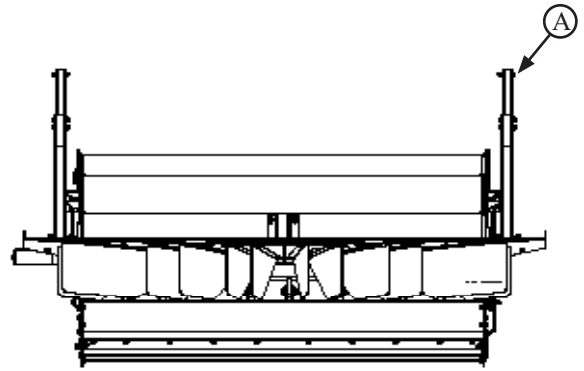

Figure 1
1. Position tailboard to Figure 1 so the residue material when exiting the chopper, merges with the tailboard panel at the last third of the tailboard to provide maximum spread.
- Use upper arm hole (A)